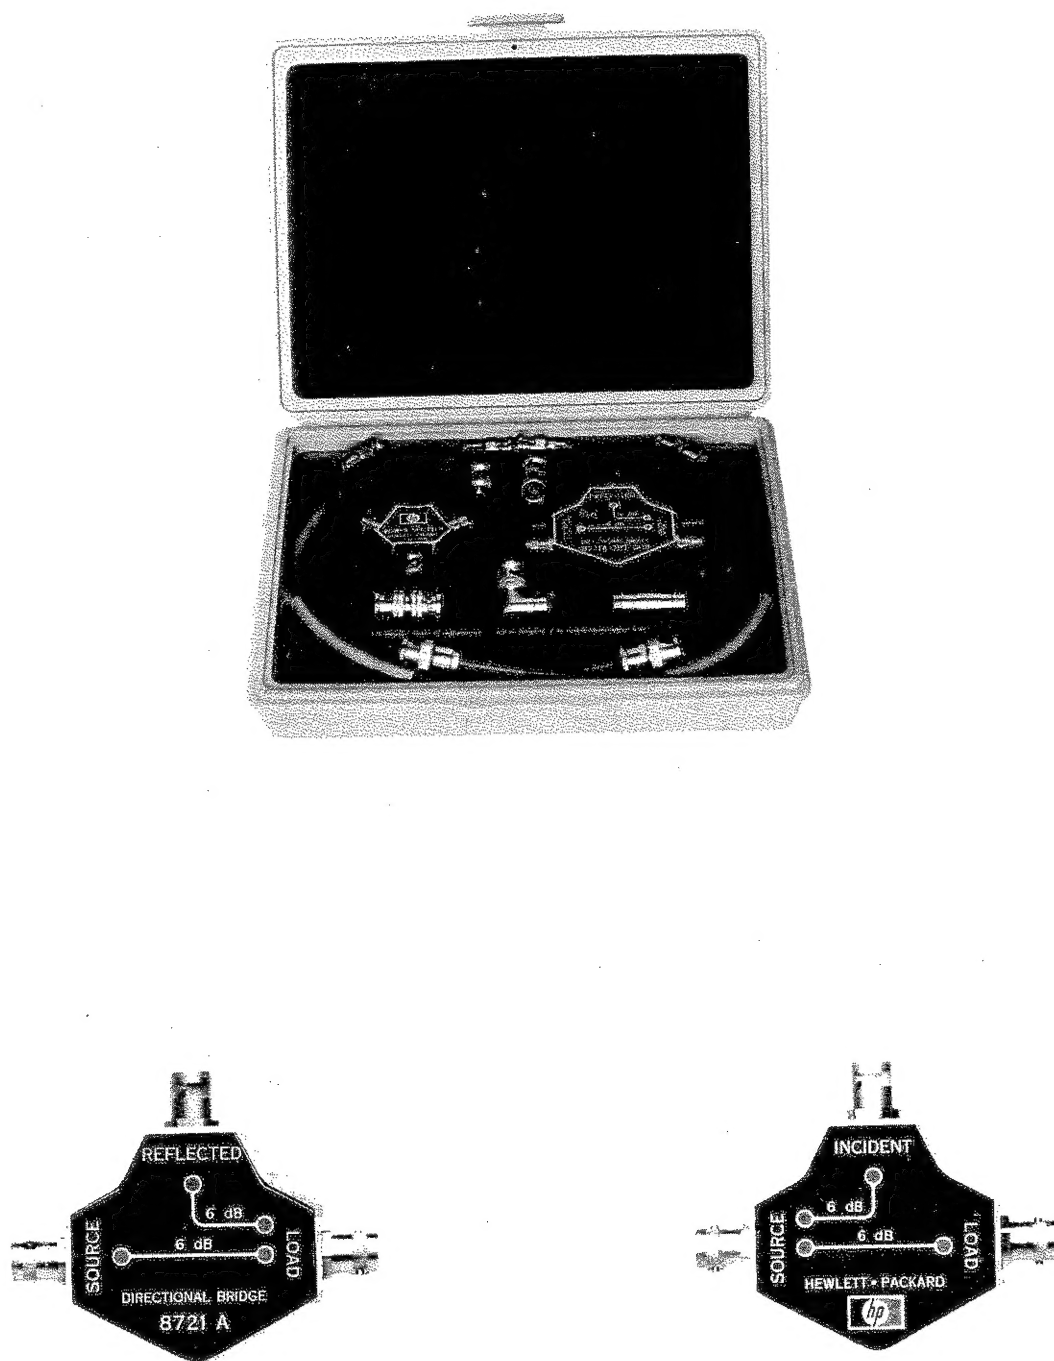
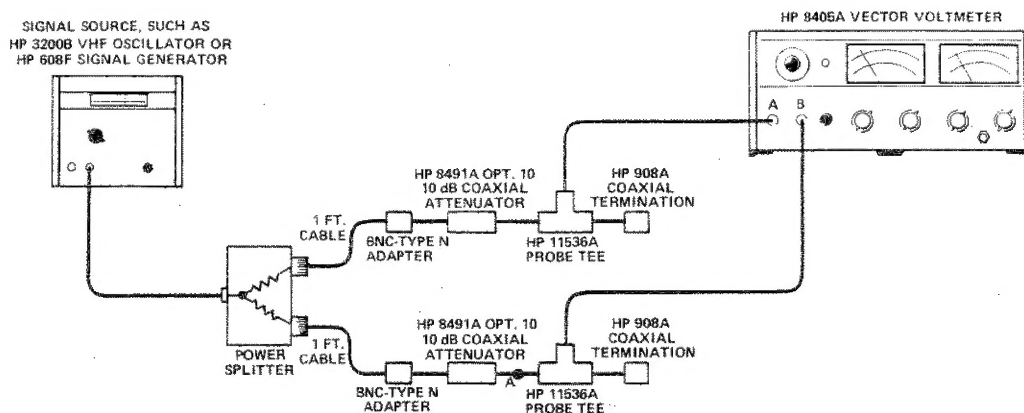

Figure 1. HP 11652A Transmission/Reflection Kit
Figure 6. Setup for Making Transmission Measurements with HP 8405A
The HP Model 11652A Transmission/Reflection Kit (see Figure 1) is used when characterizing 50-ohm RF networks from 0.1 to 110 MHz. Swept measurements may be made when the HP 11652A is used with the HP 8407A Network Analyzer (see Figures 4 and 5). Single frequency measurements may be made when using the HP 11652A with the HP 8405A Vector Voltmeter (see Figures 6 and 7).
- a. Setup the equipment as shown in Figure 6.
- c. Insert the test device at point A in Figure 6 and make the measurement.